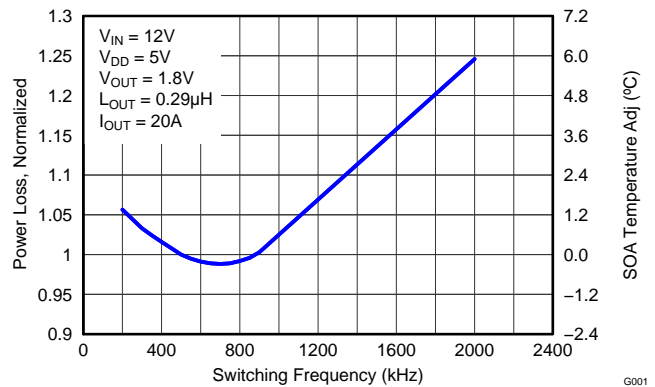

Figure 8. Normalized Power Loss vs Frequency
- Normalized Power Loss for switching frequency  $\approx$  0.99 (Figure 8)
- SOA adjustment for switching frequency  $\approx$  -0.2°C (Figure 8)